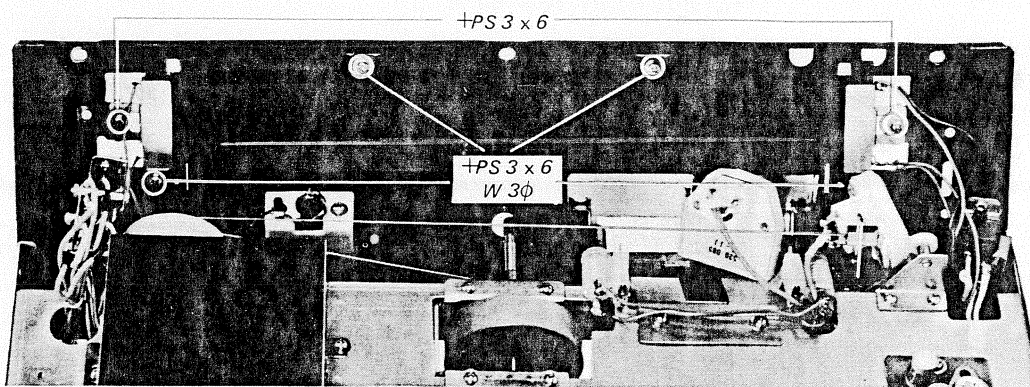

Fig. 2-11 Dial scale removal (1)
2. Remove the four screws (+PS 3 X 6) behind the front subchassis. See Fig. 2-11.